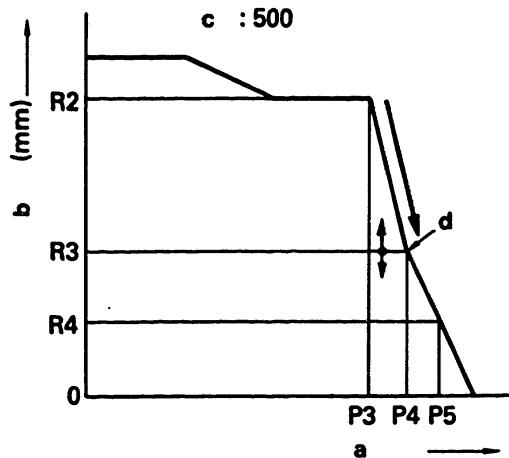

Fig. 66
- Maintaining negative pressure at  $P_4$ , fit the idling spring capsule (18) and fix the control rack in position  $R_3$  using locknut (21). (Figs. 66 and 67)